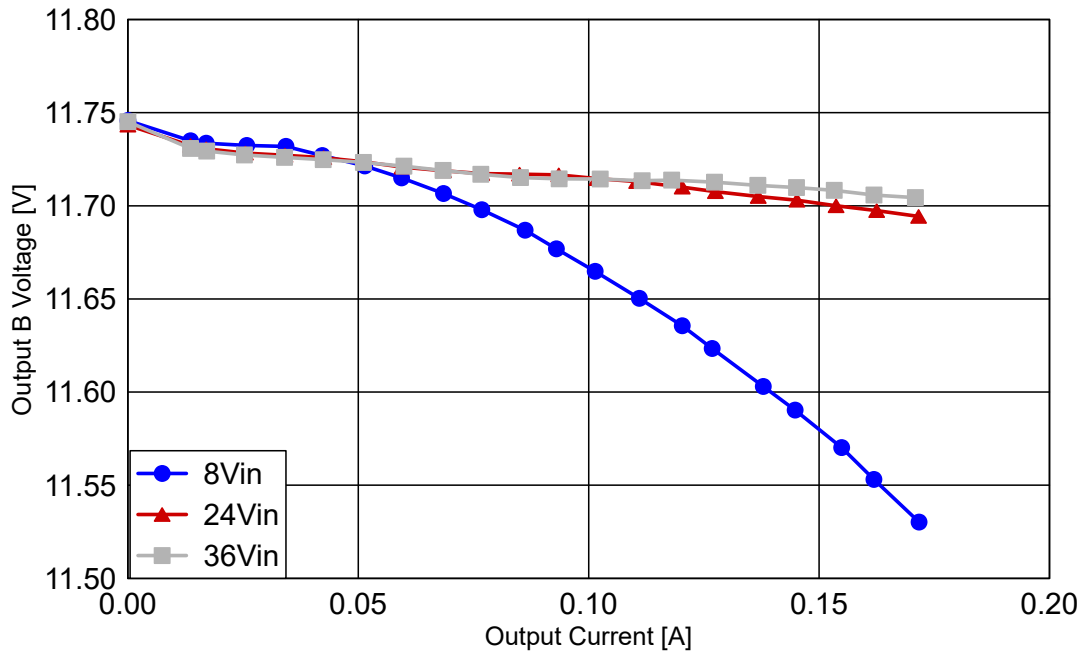

Figure 2-4. Load Regulation for 12-V Output Voltage
- (red curve) the according voltage values with symmetrically loaded outputs. (See also Figure 2-4)